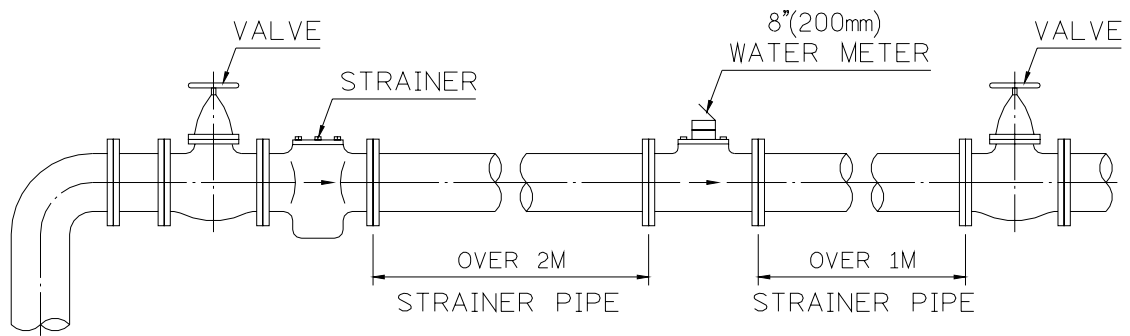

Fig.5
- (1) Installing a strainer before 2M in front of the inlet of flow meter to protect internal parts from damage by rocks or objects.
- (2) As Fig.5 shown, it needs straight pipe 2M long before inlet and 1M long after outlet to make sure of accuracy of the flow meter.
- (3) Flow meter should be installed firmly and stably, in case of vibration effecting the flow meter.